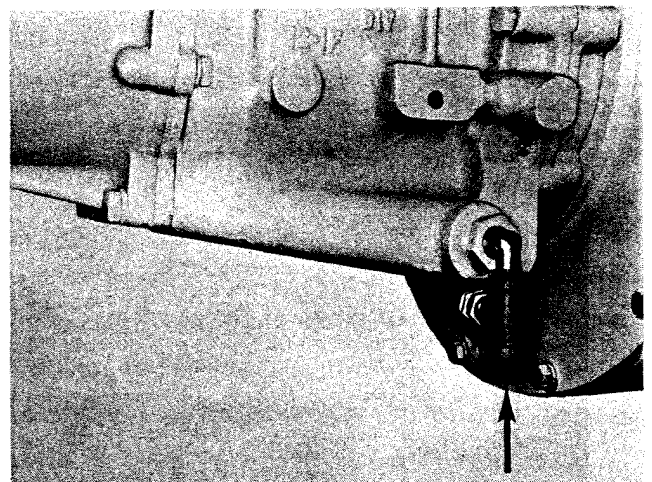

Fig. 2-12, (V11957). Borg Warner marine gear drain point
2. If space permits, place a container of approximately 2 quarts capacity under drain cap. Unscrew drain cap, Fig. 2-12, reach into opening with suitable tool and remove strainer assembly. Allow all oil to drain into container.